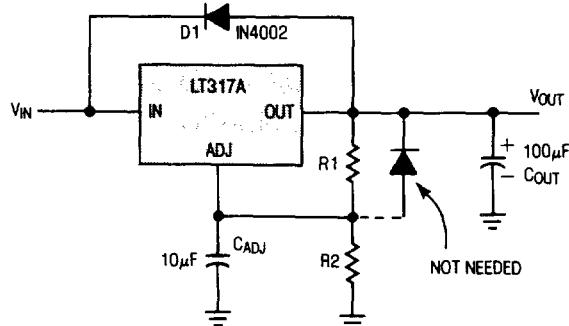

Figure 2
**Protection Diodes:** The LT117A/317A do not require a protection diode from the adjustment terminal to the output (see Figure 2). Improved internal circuitry
If a very large output capacitor is used, such as a  $100\mu F$  shown in Figure 2, the regulator could be damaged or destroyed if the input is accidentally shorted to ground or crowbarred. This is due to the output capacitor discharging into the output terminal of the regulator. To prevent damage a diode D1 is recommended to safely discharge the capacitor.